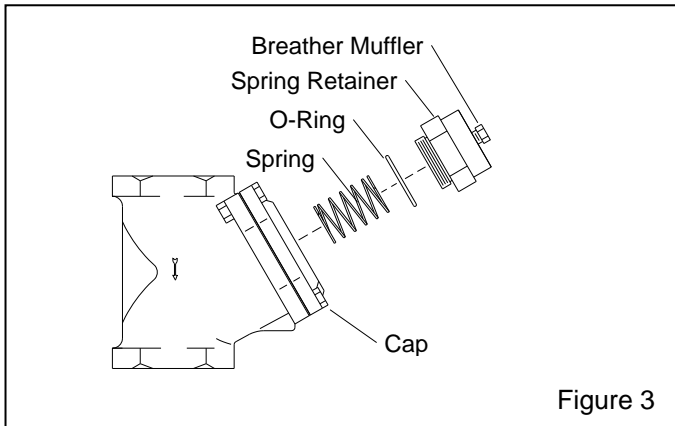

Figure 3
4.1.1 Refer to Figure 3 and unscrew the spring retainer from the cap.
Refer to Figure 3